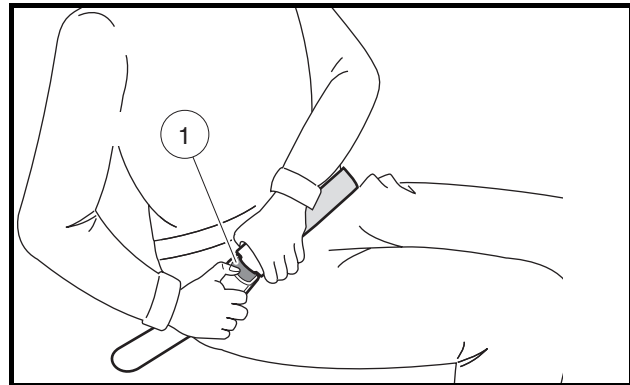

Figure 9 Release Safety Belt
To release the safety belt, press the buckle release button (1) and allow the belt to retract. If the belt does not retract smoothly, pull it out and check for kinks or twists. Then make sure it remains free of twists as it retracts **(Figure 9).**